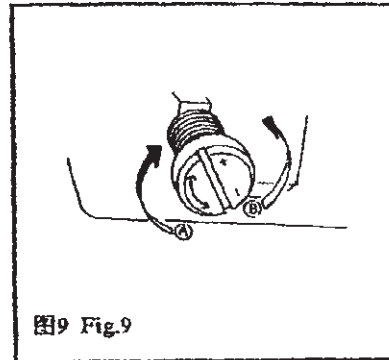

图9 Fig.9
#### c. 调节旋梭油量 (图 9)
c. Adjusting the oil of rotary hook (Fig 9)